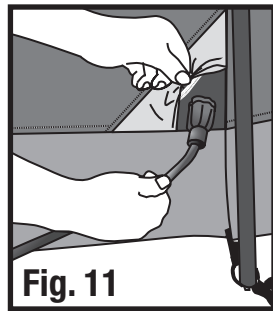

Fig. 11
**NOTE:** Use only UL approved cords rated for outdoor usage. (Fig. 11)